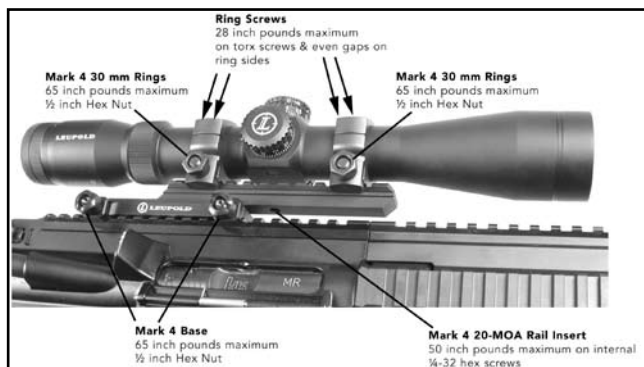

Fig. 73 – Basic Scope and Mount Instructions
- (Recommended) Install hex nuts on right side of rifle (as shown in Fig. 73)